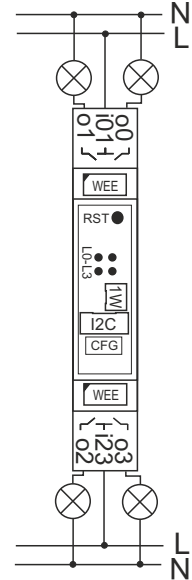

Fig 1. Diagram of connecting the connector
- Note of the card PIN and Serial Number (SN) device (Both located on the housing of the device)
- Connect the cables I01, I23, o0..o3; according to Fig 1.